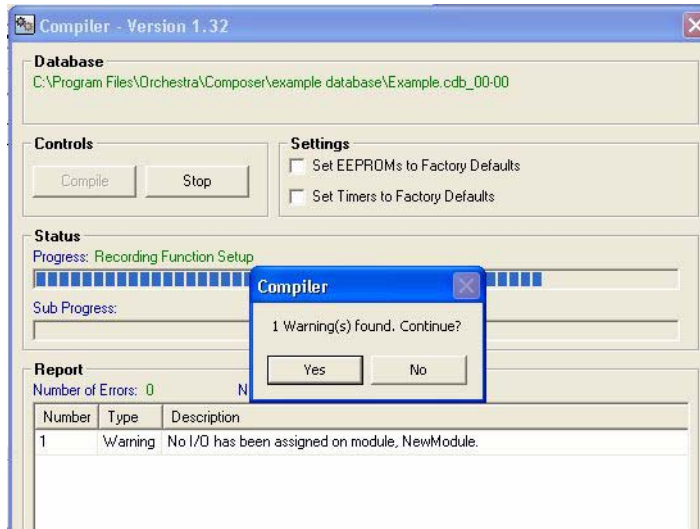

**Figure 25**
40. Click the *Compile* button (**Figure 25, A**) to begin compiling the database.